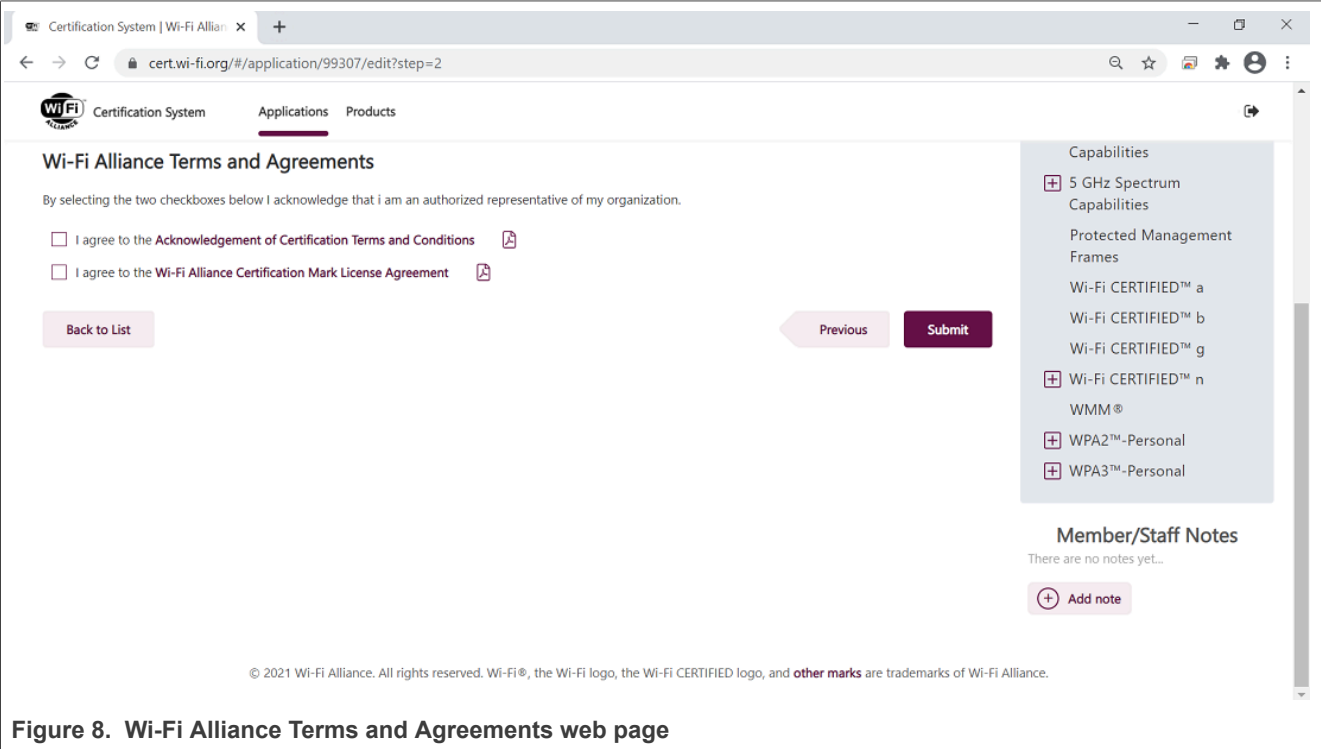

Figure 8. Wi-Fi Alliance Terms and Agreements web page
- Tick the two check boxes to accept Wi-Fi Alliance terms and agreements as authorized member and representative of your organization. See Figure 8.